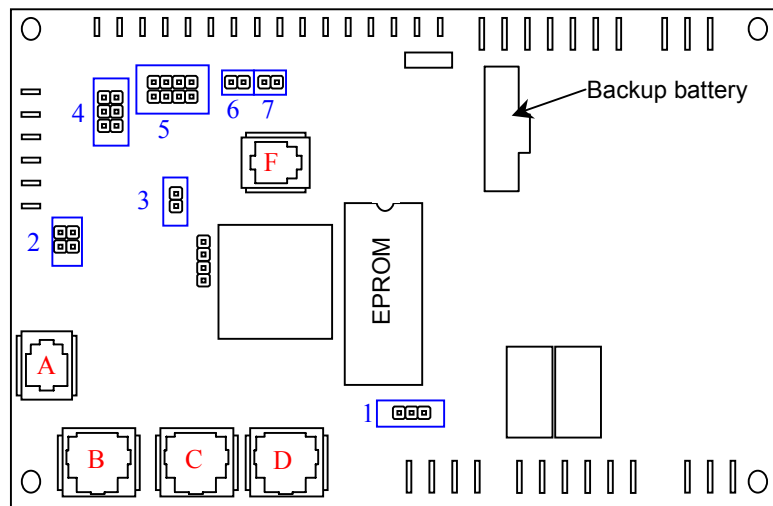
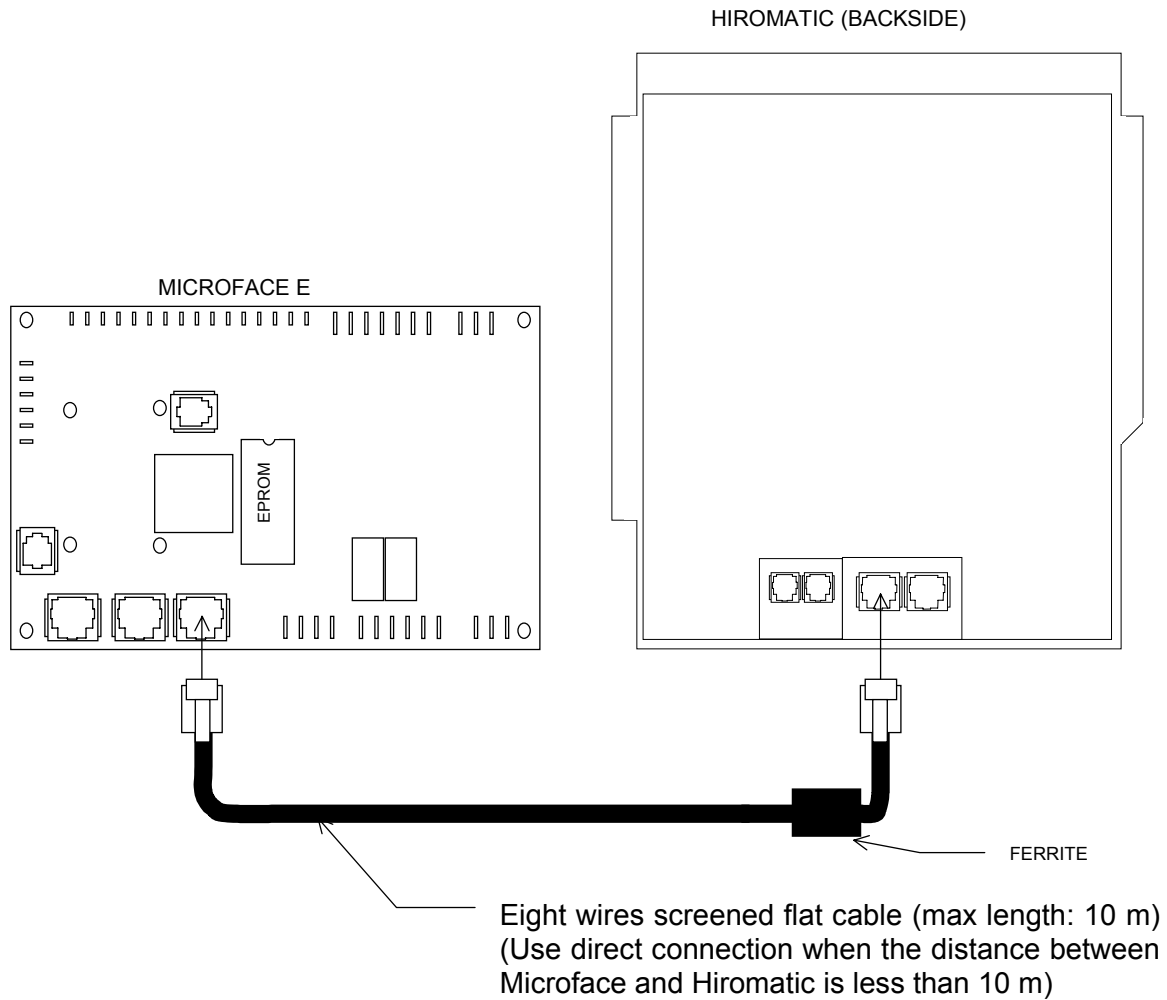

Figure 1 – Microface E 24V AC with connectors and jumpers.
Figure 8 – direct Connection between Microface E and Hiromatic E
**Un-power the Microface before mounting/dismounting the Eprom. Remove Eprom only with special tool; never use a screwdriver. For correct direction of mounting please refer to Figure 1 in chapter 2.1 for Microface E and Figure 8 in Chapter 2.6.2 for Hiromatic E. Compare the Mark in the Eprom with the direction in the Drawing.**